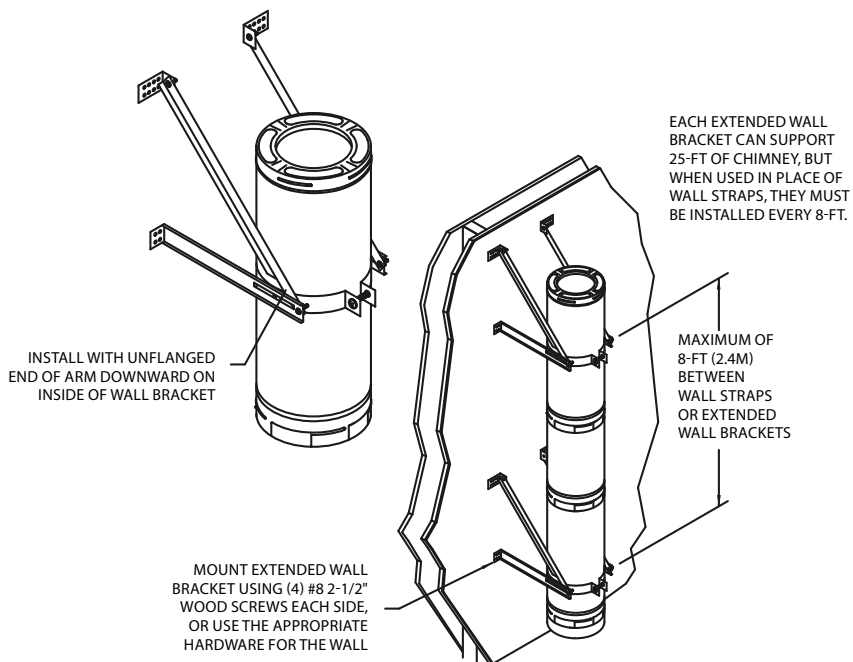

Figure 26
If additional clearance from the wall is necessary, an Extended Wall Bracket can be used. An Extended Wall Bracket acts as a support to the chimney and can hold up to 25-ft of chimney. Additional Extended Wall Brackets can be used for additional support if necessary. Mount the lower, long side brackets to the wall using (4) #8, 2-1/2" screws for each side. Mount the top, short brackets to the wall also using (4) #8, 2-1/2" screws for each side. Attach the supporting arms of the Extended Wall Bracket using the hardware provided. The unflanged end of the arms faces downward (**see Fig 26**). Slide the supporting bolts of the Band through the slots of the Extended Wall Bracket and adjust to provide the clearance needed.